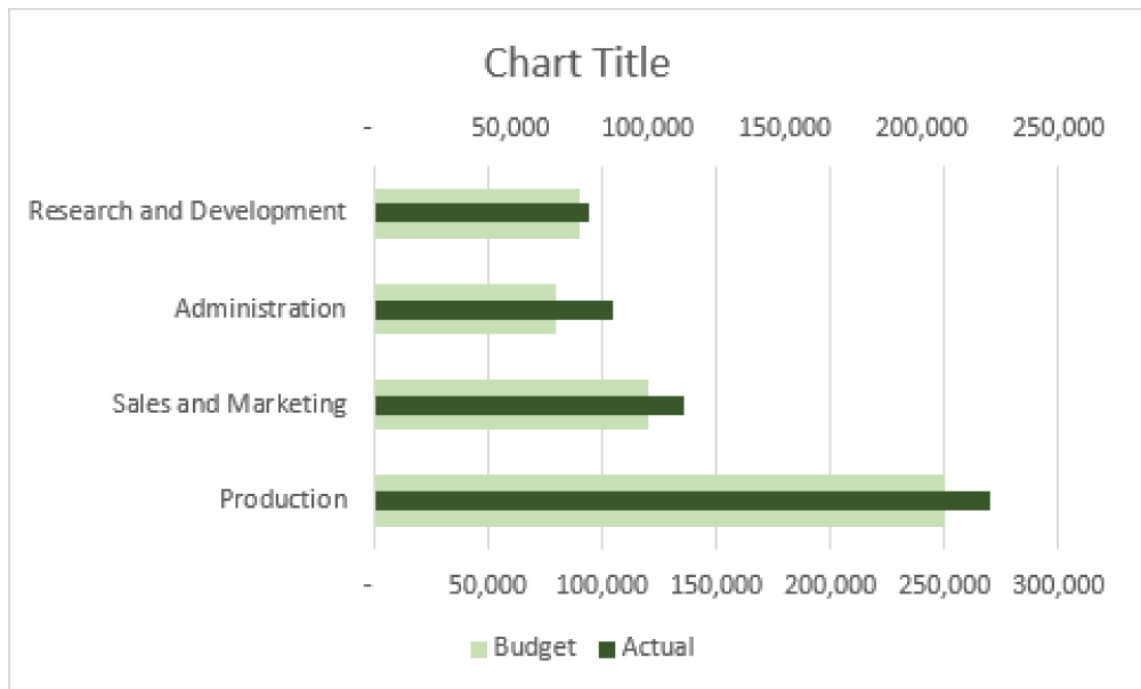

Figure 7.16: Bullet chart after gap width and color adjustments
5. For each series, change fill and border colors on the Fill & Line tab of the Format Data Series task pane. Typically, the wider budget bar is a lighter color than the narrower actual bar. Figure 7.16 shows the state of the chart after this step.